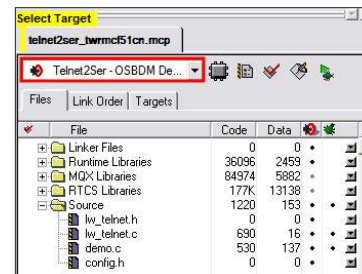

Figure 2: MXQ Source Tree
- Open the config.h file in the CodeWarrior window. Double-click the file item located in the "Source" group in the CodeWarrior project tree. See Figure 2.